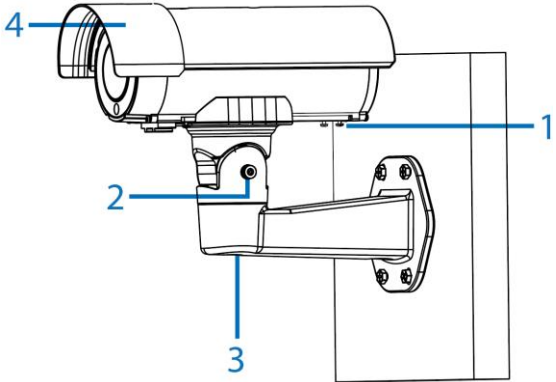

Figure 6
4. Flip the camera so that it sits properly on the mounting arm plate and secure it to the mounting arm plate with the four T10 screws (1) (Figure 6).
1. Use the T10 security Torx wrench to adjust the bracket Tilt angle (2) (Figure 6) and to adjust the bracket Pan angle (3) (Figure 6).
1. Move the sun shield hood (4) (Figure 6) forward and backward to adjust the position of the sunshade.